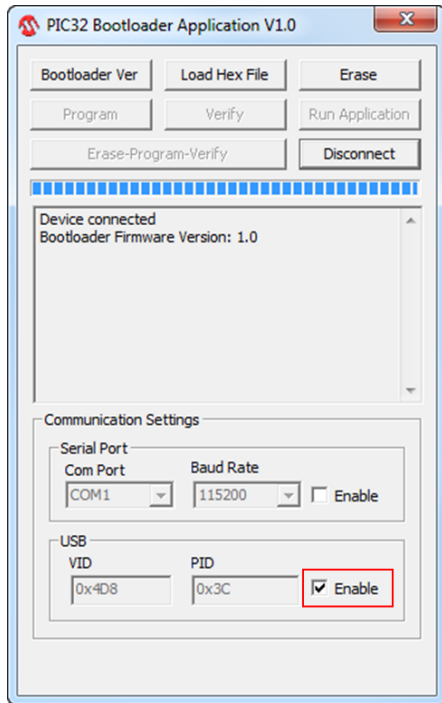

Fig. I3 Bootloader Application on PC
- Run bootloader application "PIC32UBL.exe" on PC. Check the "Enable" checkbox for USB, click "Connect" button, Fig. I3